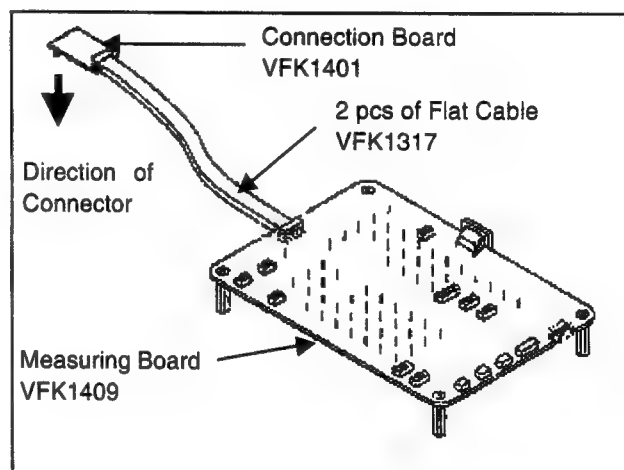

Fig. E4
2. Make sure that the contact surface of 2 pcs. of 30 pin Flat Cables are inner side and direction of the EVR Connection Board is as shown in figure E4.